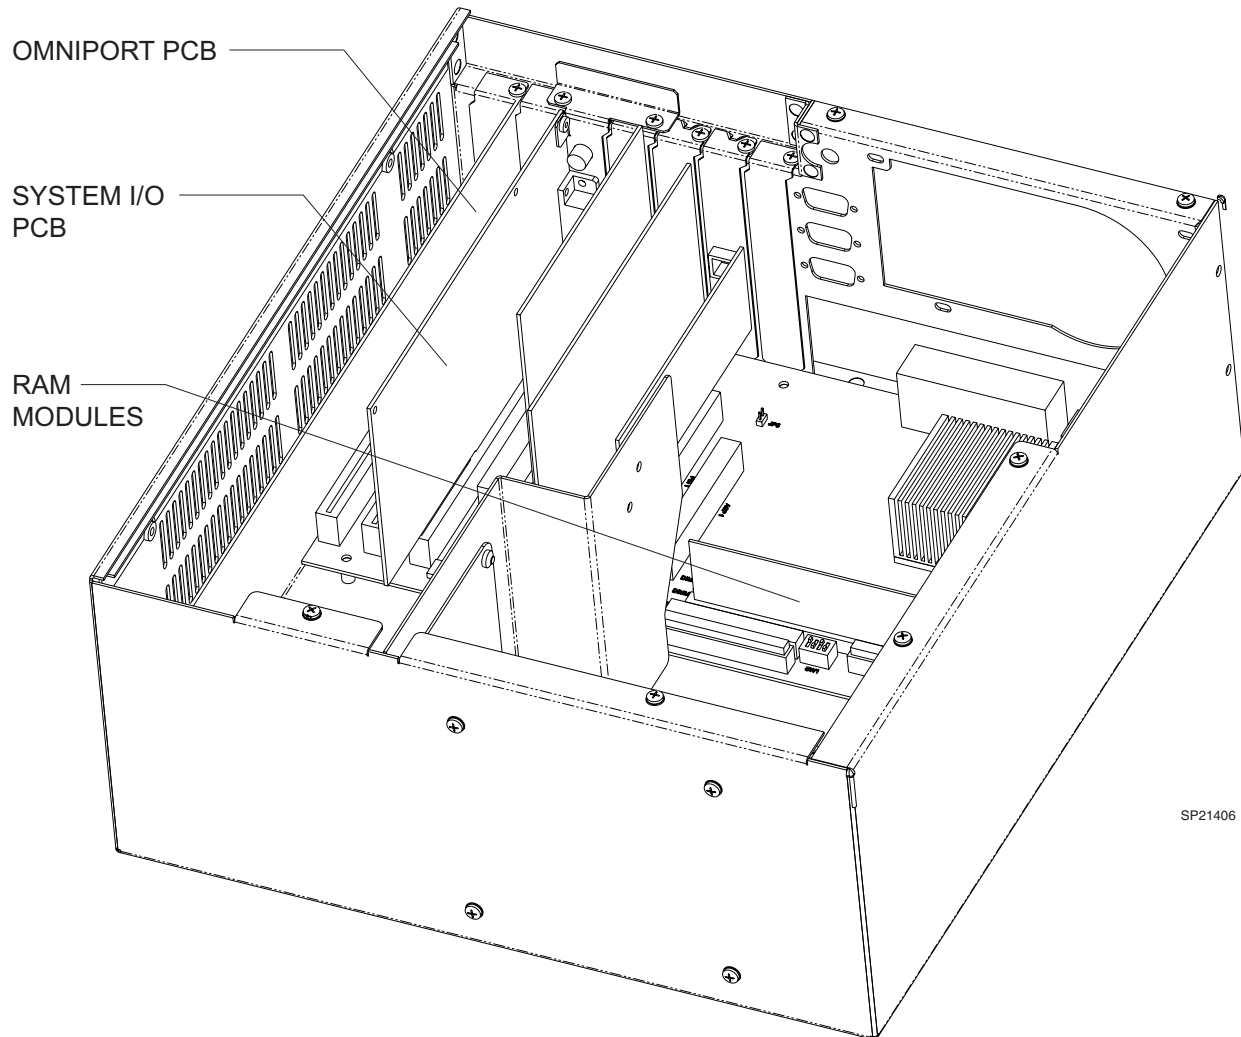

FIGURE 6. WPU Component Identification
- 6.9 Locate the System I/O PCB and carefully pull the System I/O PCB out from the motherboard. See Figure 6.
6.17 Locate the Omniport PCB within the WPU. See Figure 6, WPU Component Identification. Verify the PCB is correctly aligned into the WPU's vertical retaining channel (opposite end from the PCB's mounting clamp). Also verify the header connector is completely
6.18 Locate the memory (RAM) modules within the WPU. Refer to Figure 6, WPU Component Identification. Verify all RAM modules are perpendicular to the motherboard and the retaining clips at each end of the modules are properly secure. The round section of the clip shall be snapped into place on the component side (right side) of the RAM module to make proper connection. An